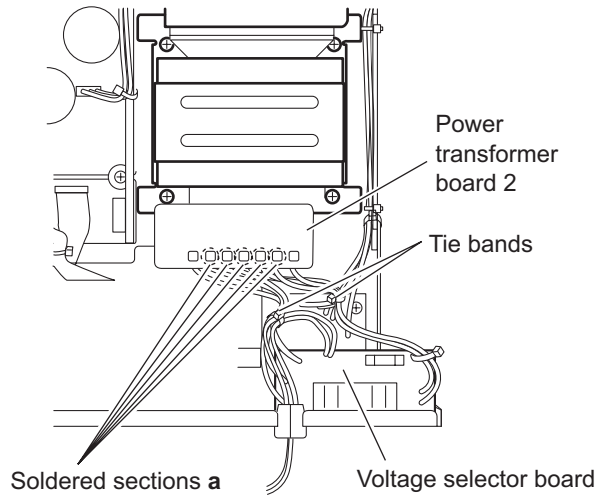

Fig.14
- (2) Remove the solders from the soldered sections **a** on the power transformer board 2 and remove the wires of the voltage selector board. (See Fig.14)
- (3) Take out the voltage selector board.